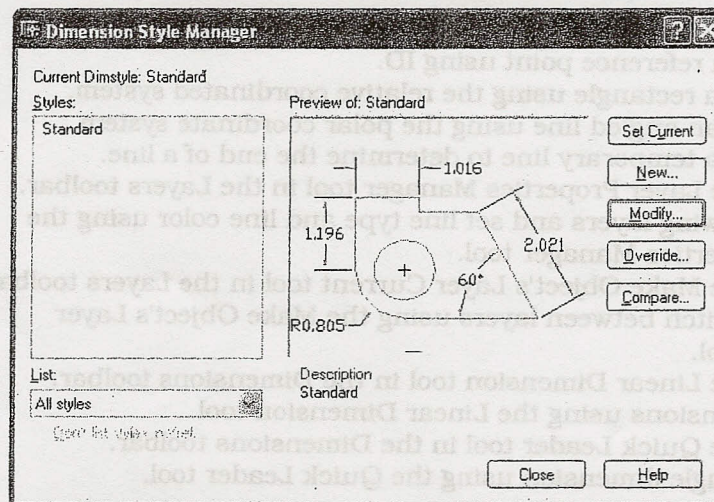

Figure 2 Dimension Style Manager dialog box
5. Under Format>Dimension Style..., click the Modify... button (Figure 2):